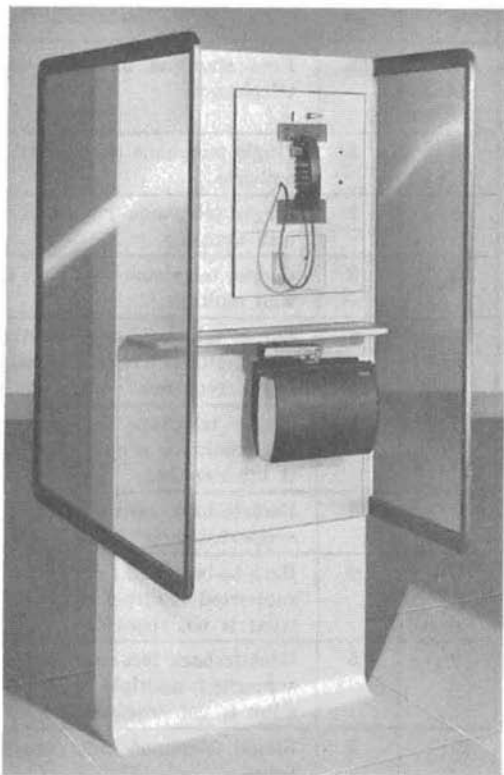

Fig. 1—KS-20630 List 1 Coin Telephone Booth With List 16 Base Assembly Concealed Beneath Dress Finish
1.02 The KS-20630 telephone booth (Fig. 1) is a doorless coin station intended for indoor walk-up service.